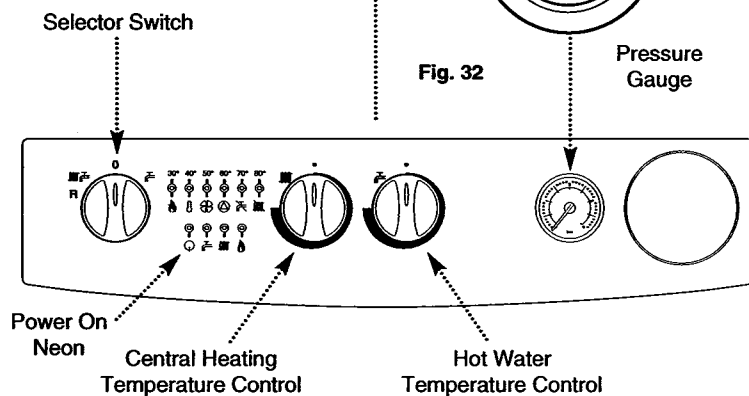

Fig. 33
10. If at any time during commissioning it is required to terminate a particular cycle, e.g. the pump overrun period, turn the selector to the OFF position and then back to either (OFF) or (ON) (Fig. 33).
3. Slacken the pressure test point sealing screw on the gas valve and connect a pressure gauge (Fig. 33).